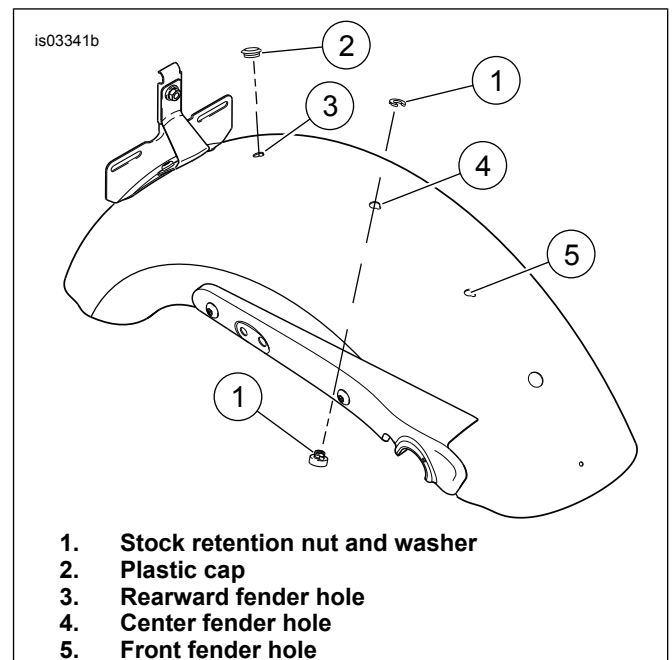

Figure 1. Retention Nut and Plastic Cap Location
- a. See Figure 1. Remove retention nut from rearward fender hole (3) and plastic cap (2) from center fender hole (4).